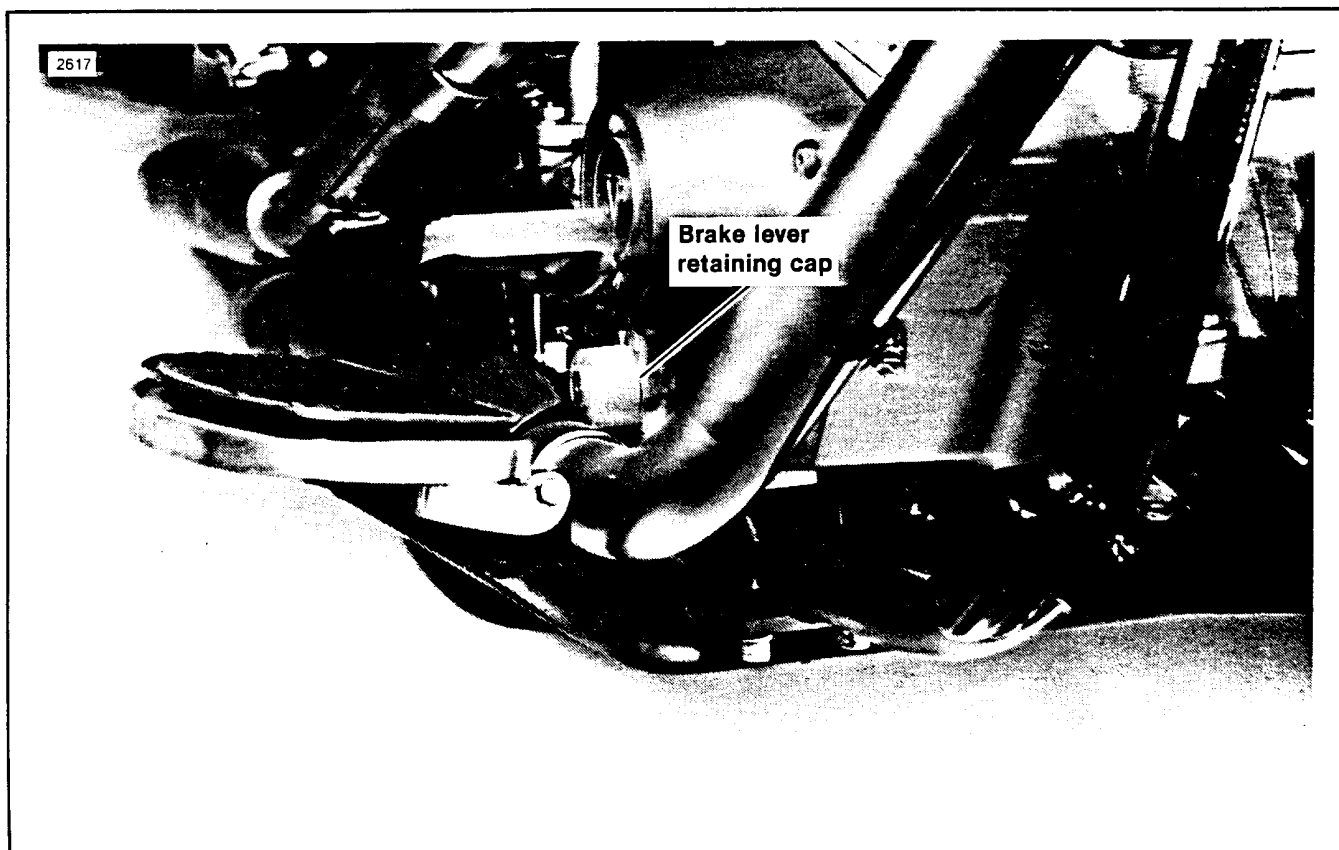

Figure 1.
4. See Figure 1. Install the brake lever retaining cap (7) on the support bracket as shown. Secure with the 1/4 in. socket head set screw (6) from the kit.